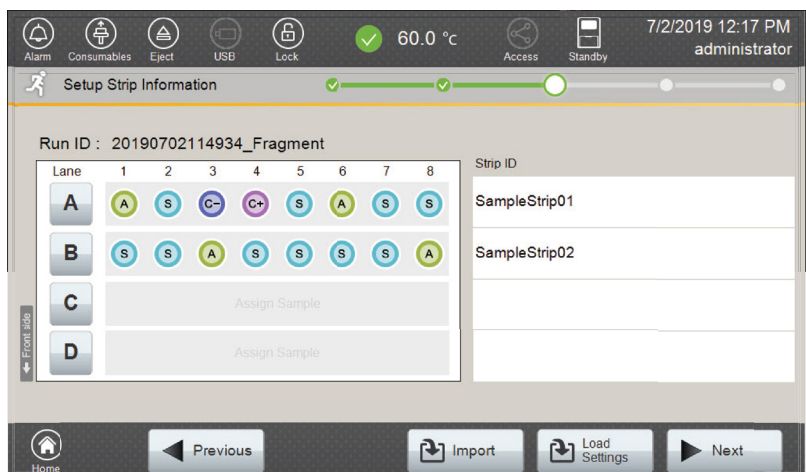

Figure 70. Completed 'Setup Strip Information' screen.
10. After all the required lanes have been set up, select **Next** on the 'Setup Strip Information' screen (Figure 70).
The Spectrum Compact Control Software allows reuse of information from a completed run. When this option is used, the strip information for all four lanes (A through D) of a previously completed run, is copied and displayed on the 'Setup Strip Information' screen (Figure 70).